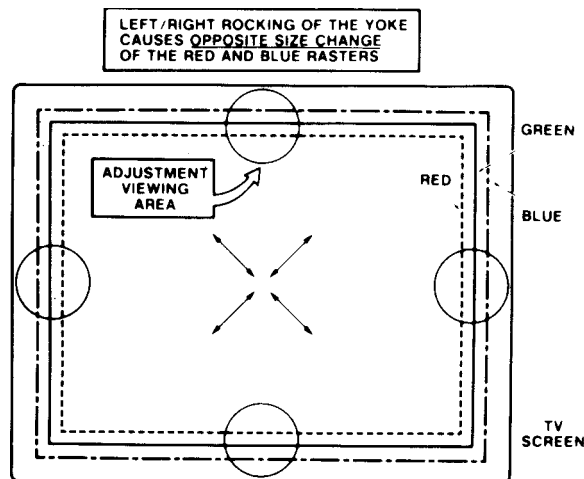

Fig. 7 - Yoke Horizontal Convergence Adjustment
16. While watching the 6 o'clock and 12 o'clock areas of the screen, rock the front of the yoke in the horizontal (left to right) motion to converge the red and blue horizontal lines (Fig. 7)